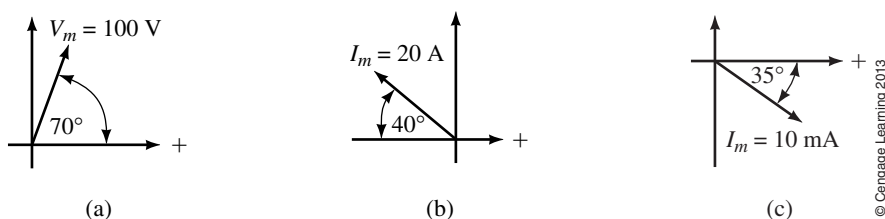

FIGURE 15-86
42. For each of the phasors of Figure 15-86, determine the equation for $v(t)$ or $i(t)$ as applicable, and sketch the waveform.